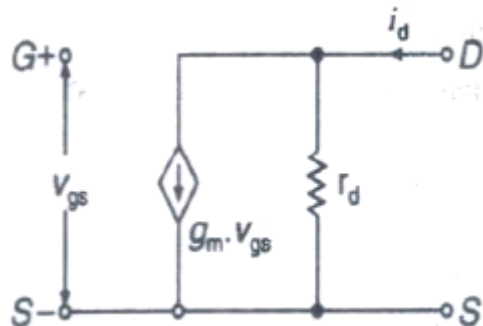

Fig. 5.1 Low-frequency FET model
- Figure 5.1 shows the small signal low-frequency model of a field effect transistor.